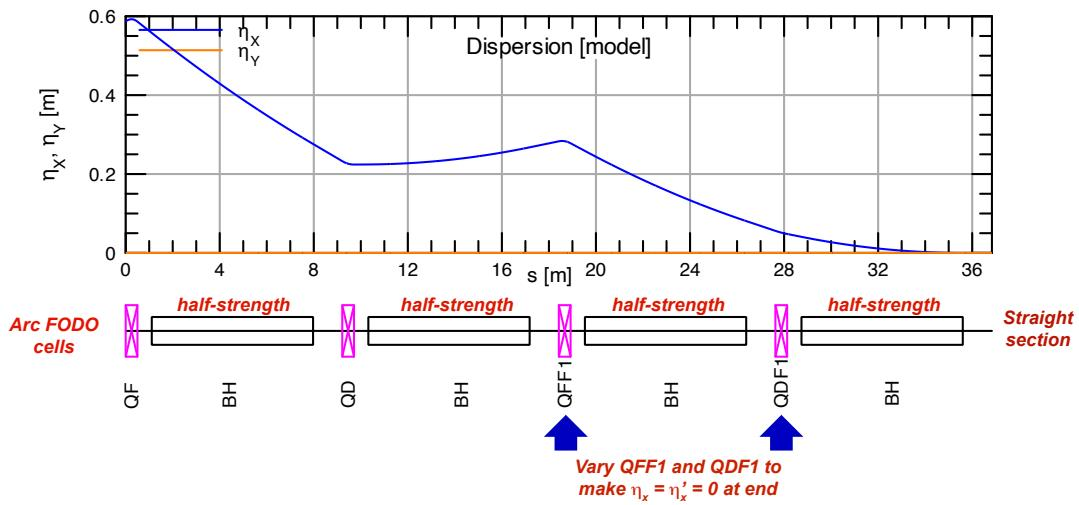

Figure 5: Dispersion suppressor.
4. Define and use the new line as in Fig. 5 containing the half bends and special quads. Since this is the forward dispersion suppressor, use the name **DISPSUPF** for the line.